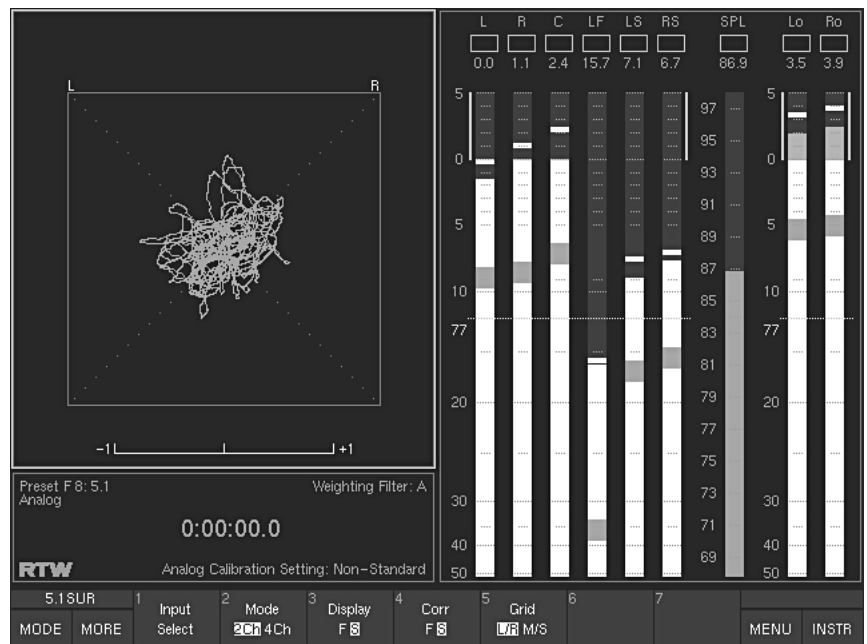

Fig. 5-14: The Audio Vectorscope instrument (VSC) in 5.1 Surround mode
(Button/key 1, see Fig. 5-14)
(Button/key 2, see Fig. 5-14)
(Button/key 3, see Fig. 5-14)
(Button/key 4, see Fig. 5-14)
(Button/key 5, see Fig. 5-14)